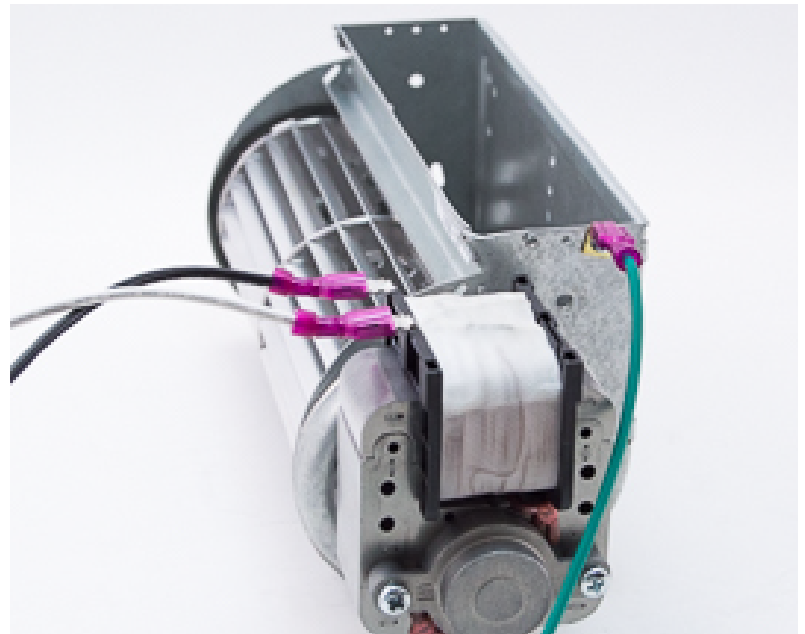

Figure: 1 •Does not matter which metal tab you connect the black and white wires to.
Step 2: Push the green wire disconnect onto the ground tab on the end of fan. (Figure: 1)
Connect white and black wires of the cord set to either of the spade terminals attached to the motor. Push disconnects onto metal tabs. (Figure: 1)